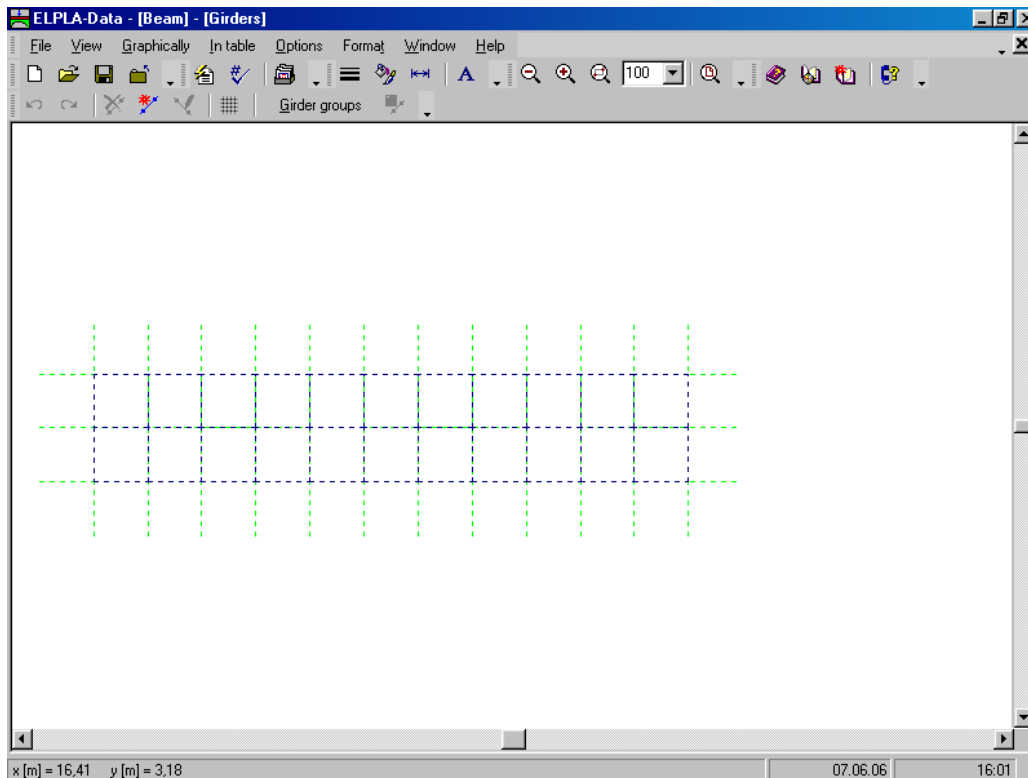

Figure 8-11 "Girders" embedded program
To define the beam members, choose "Girders" command from "Data" menu of *ELPLA-Data*. The following embedded program in Figure 8-11 appears.
- Choose "Girder groups" command from "In Table" menu in Figure 8-11.